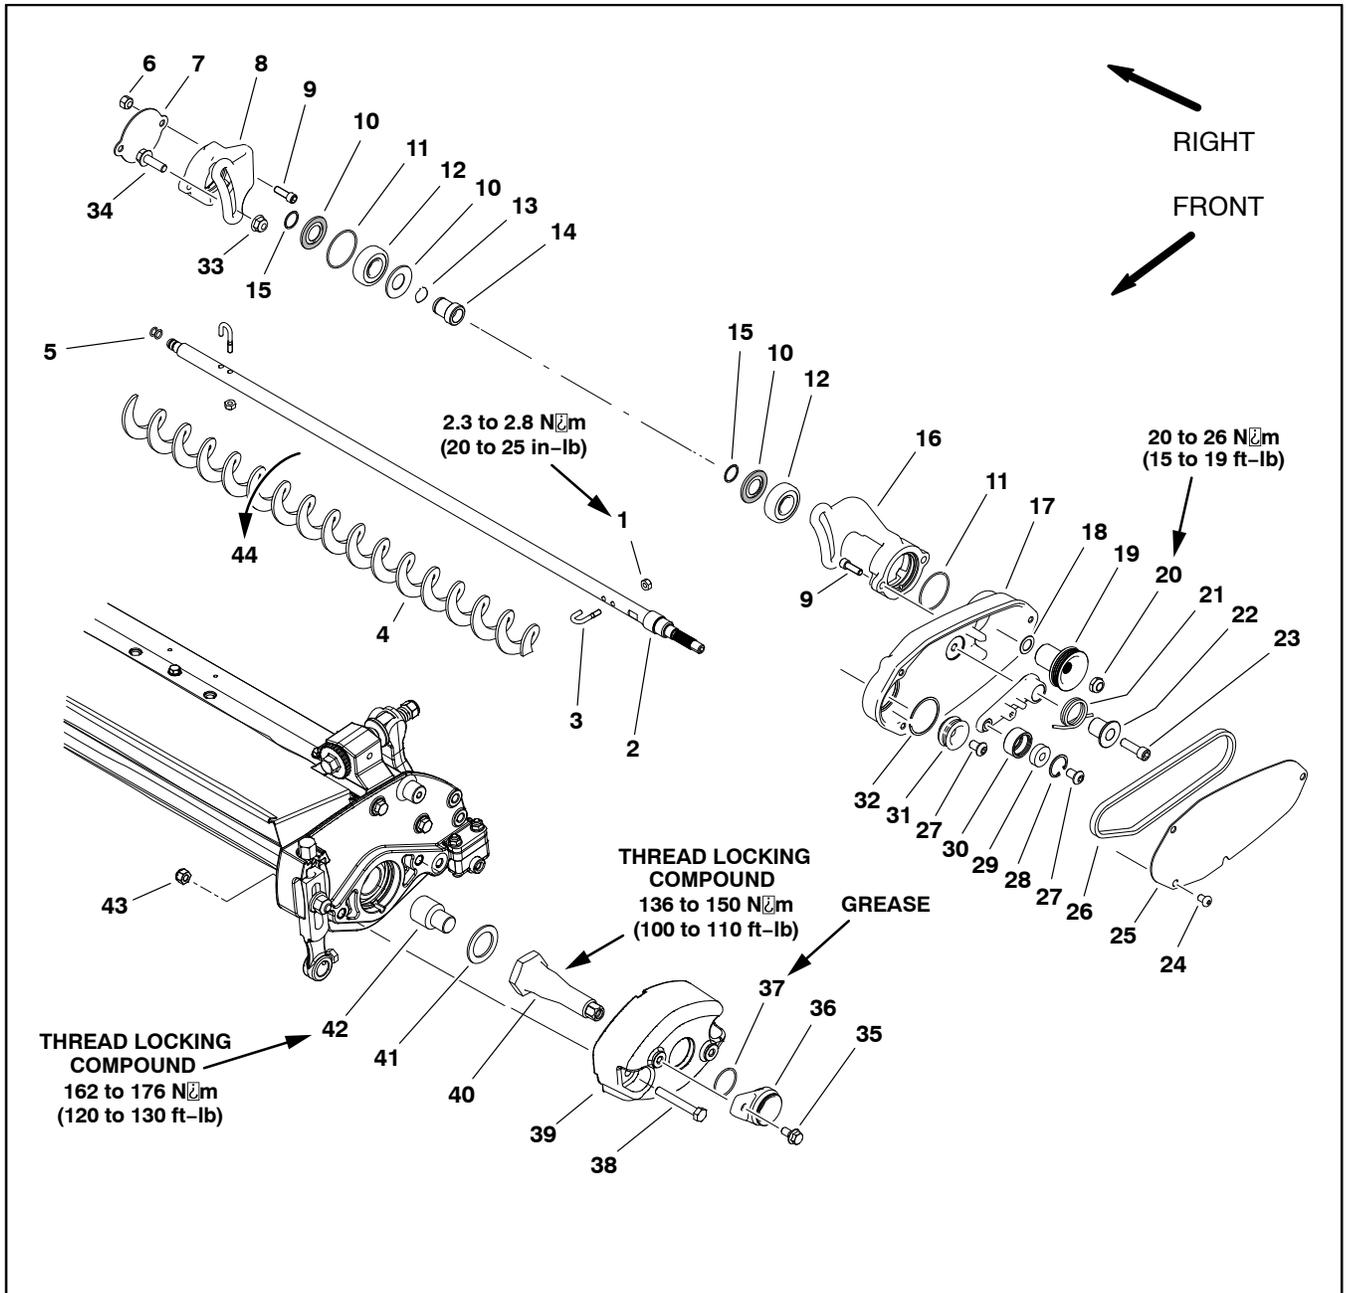

Figure 46
Refer to Fig. 46 for this procedure.
E. Retrieve the shim (item 41 in Fig. 46).